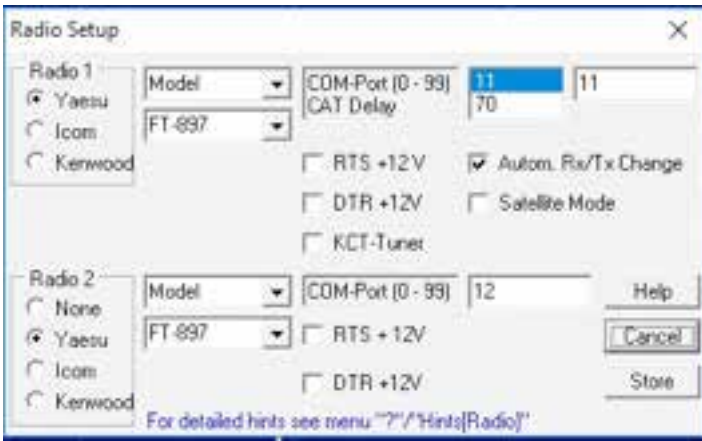

Figure 6a.
**F) Configure Radio CAT control:** From Menu Bar, select “Setup>>Radio Setup.” As illustrated in Figure 6a-b, configure Model and Baudrate as appropriate for the radios you use. Click the [Store] button. See the official documentation for additional information. Subdirectories exist for Icom, Kenwood, and Yaesu under the SatPC32 program file folder. Check the contents of those directories for additional information about those radios. (See the example of Yaesu Folders with additional information in Figure 7.)